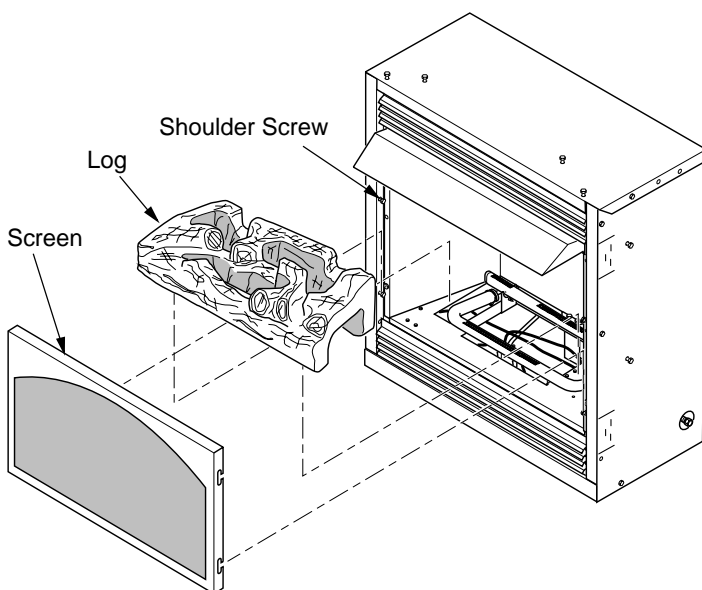

Figure 34 - Installing Log and Screen
1. Remove log packaging material and discard packaging. Gently place log over burner (see Figure 34). Do not allow log to contact flame. If flame contacts log, soot will be created.